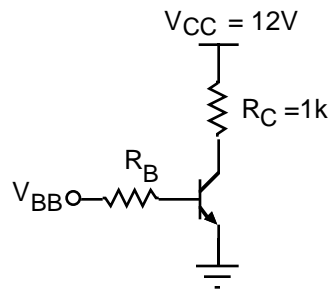

Fig 5.3
- a) If  $V_{BB} = 10\text{ V}$  in the circuit of Fig 5.3, calculate what values of  $R_B$  to